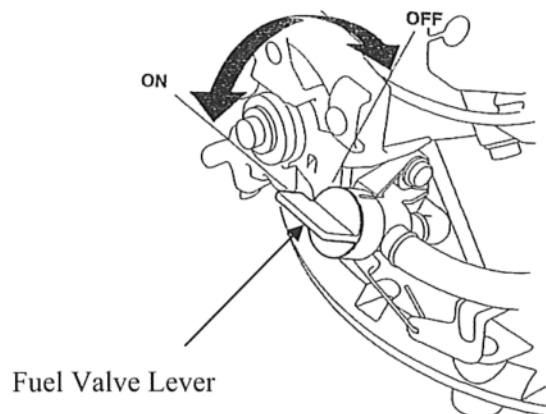

Figure 7
2. Open the fuel valve (Fig. 7)